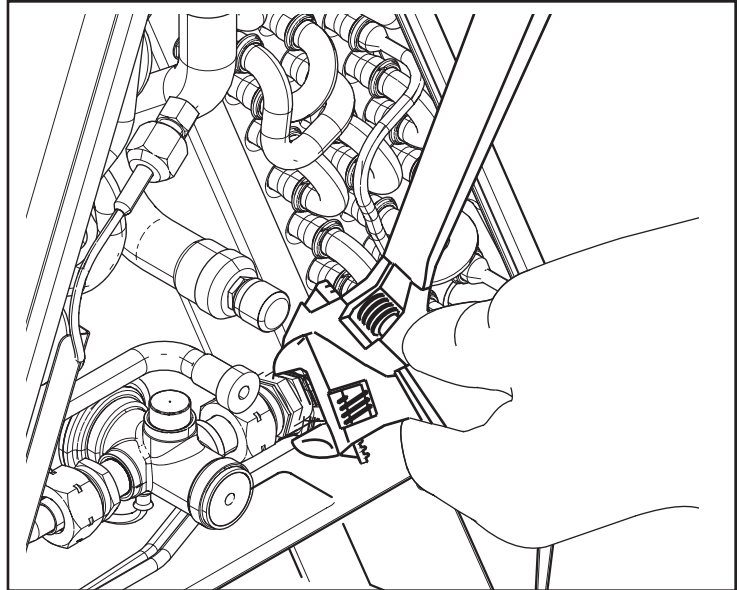

Figure 47 – Remove TXV
- Using two adjustable wrenches, loosen and remove the TXV flow control assembly at the mechanical fitting as shown in Figure 47. Keep this assembly.